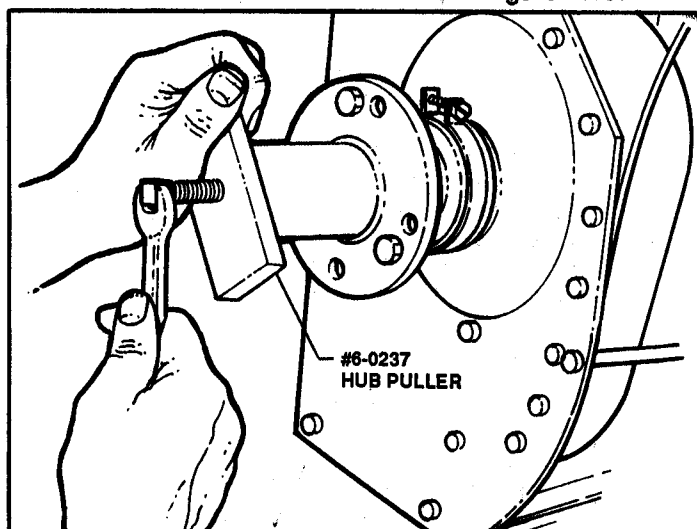

FIGURE 4.15
5. Pull wheel hubs using **SNAPPER** #60237 Hub Puller. See Figure 4.15.